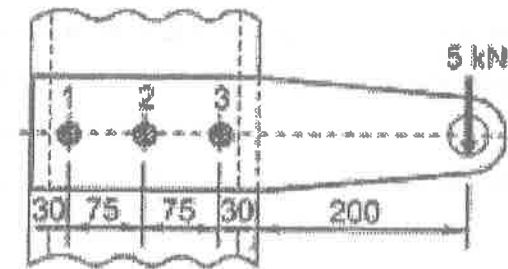

Fig. 4(b)
- (c) A wall bracket is attached to the wall by means of four identical bolts, two at A and two at B, as shown in Fig. 4(c). Assuming that the bracket is held against the wall and prevented from tipping about the point C by all four bolts and using an allowable tensile stress in the bolts as 35 N/mm^2 , determine the size of the bolts on the basis of maximum principal stress theory.